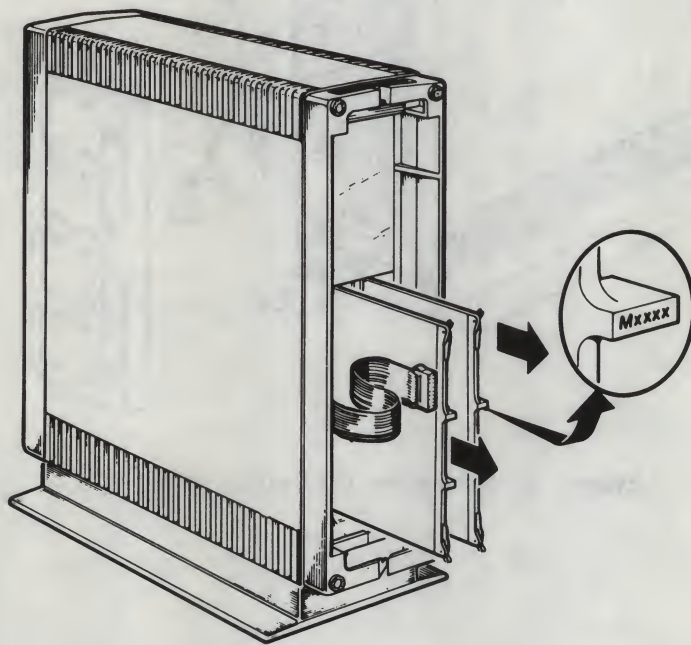

Figure 1-7 Removing Modules
- Note the order in which you remove the modules. The module number is stamped on the visible portion of the installed module (Figure 1-7).